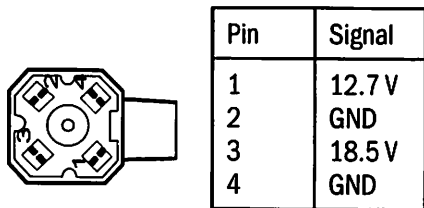
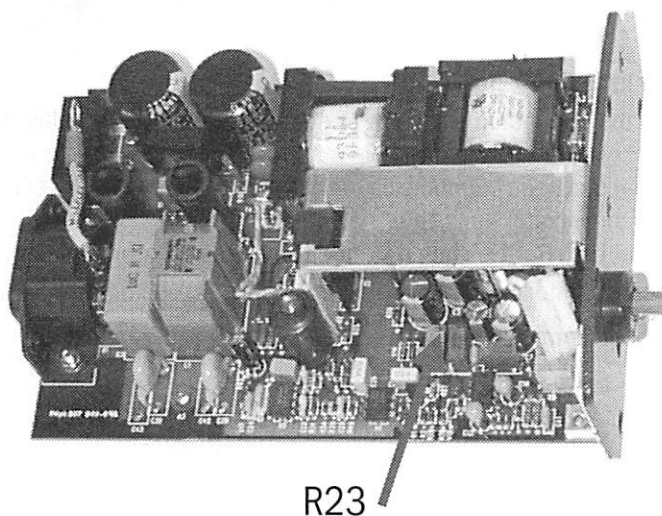

Figure 1 Power adapter’s voltages
Figure 2 Adjustment trimmer R23 in N-LPOW
- Connect the power cord to the power adapter and check the supply voltage from the power adapter’s connector. PIN 1 voltage must be 12.7 V without load (Figure 1). If necessary adjust the 12.7 V with trimmer R23 (Figure 2).